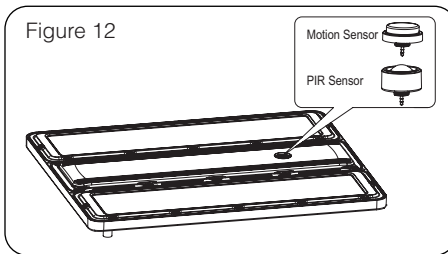

Figure 12
Step2. Twist-lock the DC sensor to the base to make it work properly, use a remote control to adjust the working mode as per demand. (Figure 12)